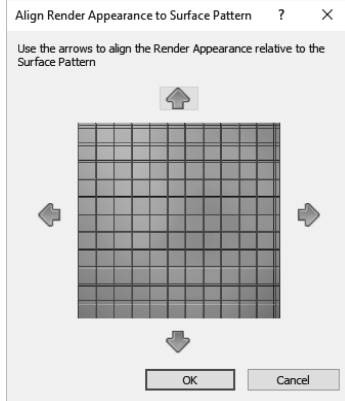

FIGURE 4-4.8 Texture alignment
29. Click the arrows if necessary to make the fill pattern align with the render appearance pattern (Figure 4-4.8).